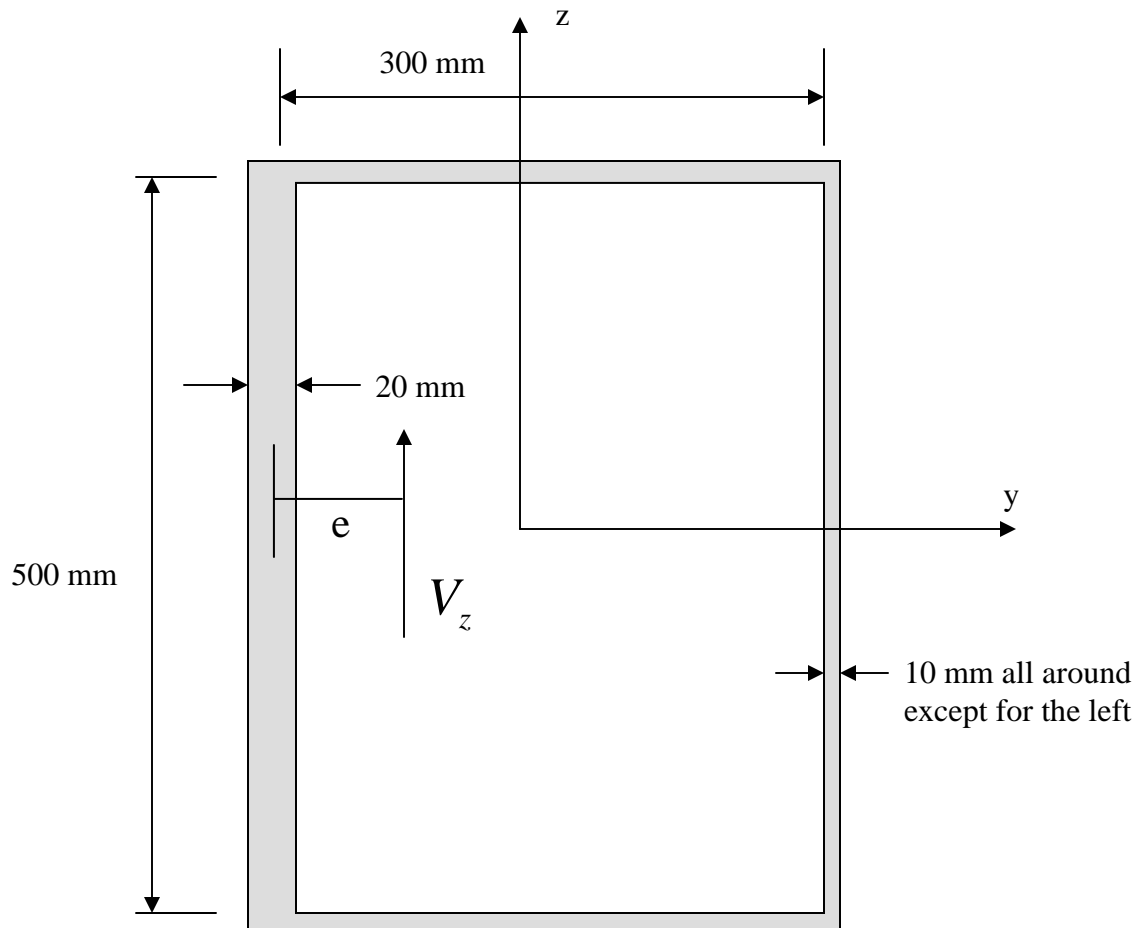

Fig. 3
3. The box beam shown in Fig. 3 ($I_{yy} = 687.5 \times 10^6 \text{ mm}^4$) supports a vertical shear force $V_z = 10 \text{ kN}$ acting through its shear center. Determine the location of the shear center (the distance, e , as shown) and show on a sketch the complete shear flow distributions. All distances are measured from the centerlines of the cross-section.